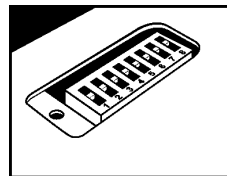

Figure 3
- Ten dip switches are located in the Doorbell button (transmitter) and eight dip switches in the Chime (receiver). (Figure 3)
- To access the channel adjustments on the chime, use a small cross-point screwdriver to remove the cover on the back of the chime. **Place switches 1 through 7 in exactly the same positions as you did on the doorbell button. (Figure 3)**